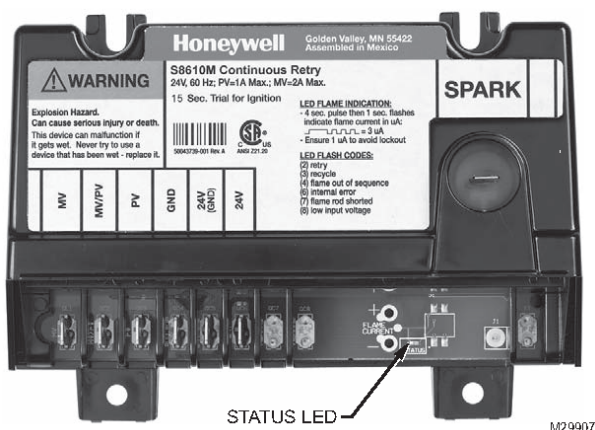

Figure 11-1: Location of LED
See Figure 11-1 for electronic ignition (EI). Electronic Ignition Modules with LED indicators. Table 11-2 cross-references ignition module terminal designations to ignition terminal numbers in wiring ladder diagrams. Table 11-4 provides green LED status codes and recommended service action where applicable. See Figure 11-1 for Location of LED. See Figure 14-1 for Troubleshooting Guide.